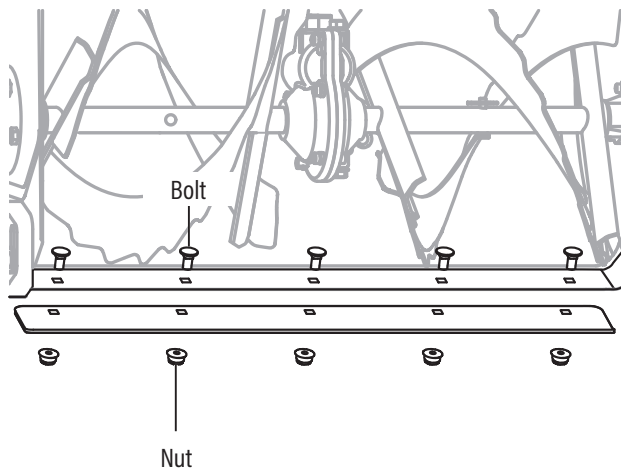

Fig.1
1. The scraper bar is located at the bottom of the snow blower housing. In the process of snow blowing, the bar may touch the ground or stone directly, resulting in wear. Remove the battery and turn the snow blower on its side to work on the tool. (Fig. 1)
2. Use a Hex wrench to remove the 5 nuts and washers under the bottom of the housing. Remove the worn scraper bar from the snow blower. (Fig. 1)